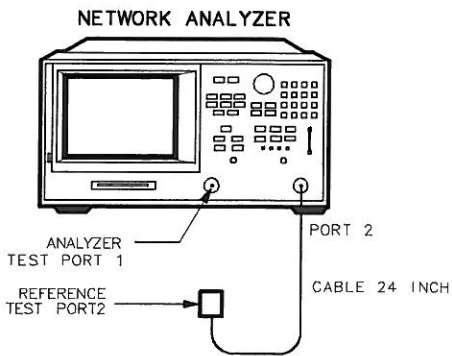

Figure 1-33. First Full 2-Port Calibration Test Setup
- 1. Connect the equipment as shown in Figure 1-33.